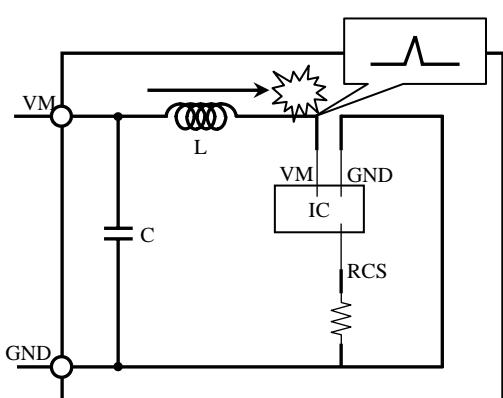
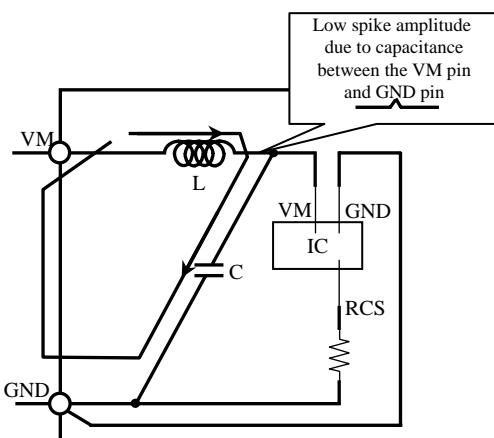

Figure 2. No recommended pattern
Figure 3. Recommended pattern
12) A high current flows into the IC. Therefore, the common impedance of PCB can not be ignored. Take the following points into consideration and design the PCB pattern for a motor. Because the wiring connecting to VM1 (Pin 17) and VM2 (Pin 18) of this IC is high-current, it is easy to generate noise at time of switching by wiring L. That might cause malfunction and destruction (Figure 2). As Figure 3, the escape way of the noise is secured by connecting a capacitor to the connector close to the VM pin of the IC. This makes it possible to suppress the fluctuation of direct VM pin voltage of the IC. Make the setting as shown in Figure 3 as much as possible.